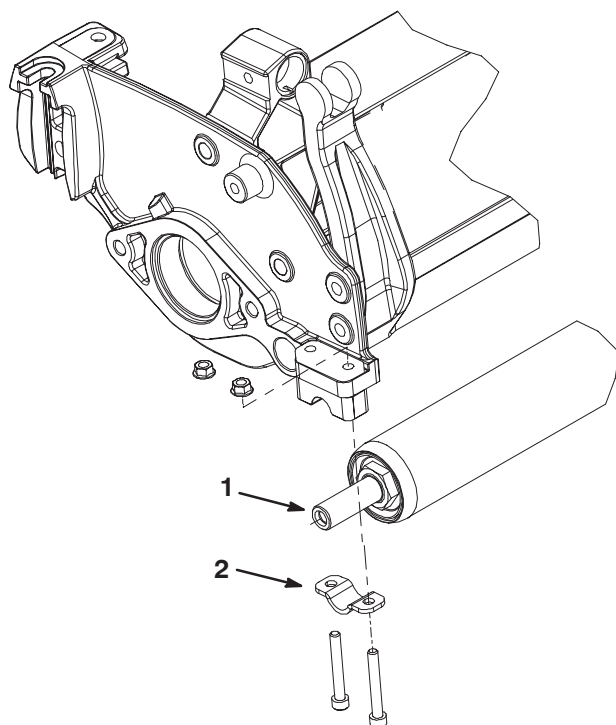

Figure 1
2. Remove the (2) capscrews and nuts securing the roller clamps to each end of the cutting unit (Fig. 1). Remove the roller.